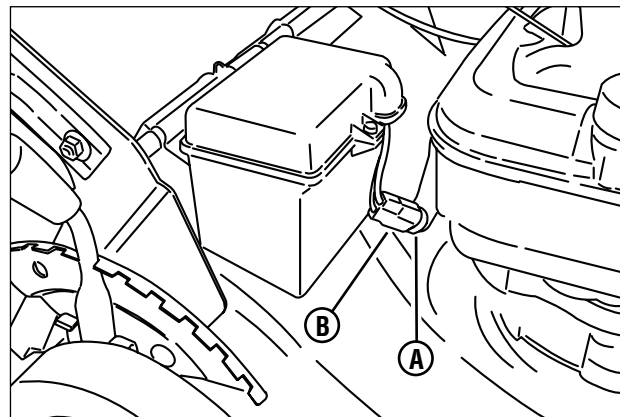

Figure 23: Battery connections
6. Plug the main harness connector (A, Figure 23) into the battery harness connector (B).
1. With the supplied DC charger: Plug the charger connector into the battery harness connector (B, Figure 23). Plug the charger into a wall outlet and charge the battery for 48 hours. (Longer periods will not damage the battery.)